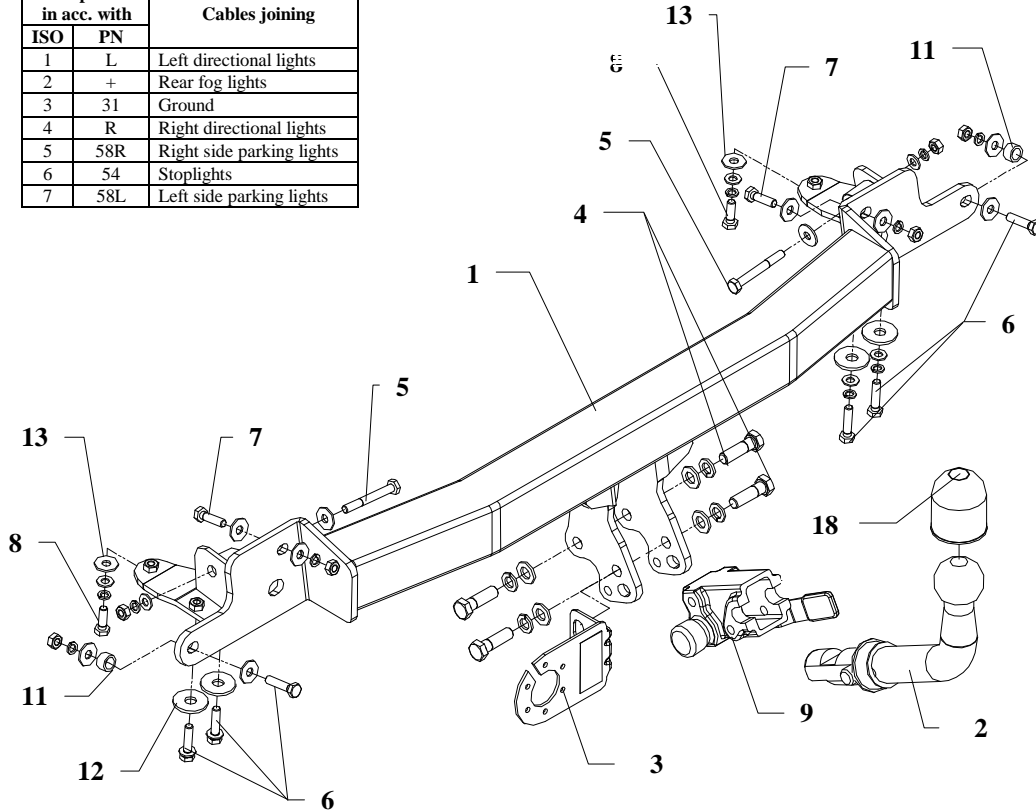

Fig.1
4. Slip main bar of towbar (pos. 1) to rear chassis members and screw using bolts, nuts and sleeves – as shown in the figure 1.
8. Fix body of the automat (pos. 9) and the socket plate (pos. 3) using bolts M12x25mm (pos. 4) from accessories. Place tow-ball (pos. 2) according to supplied instruction.